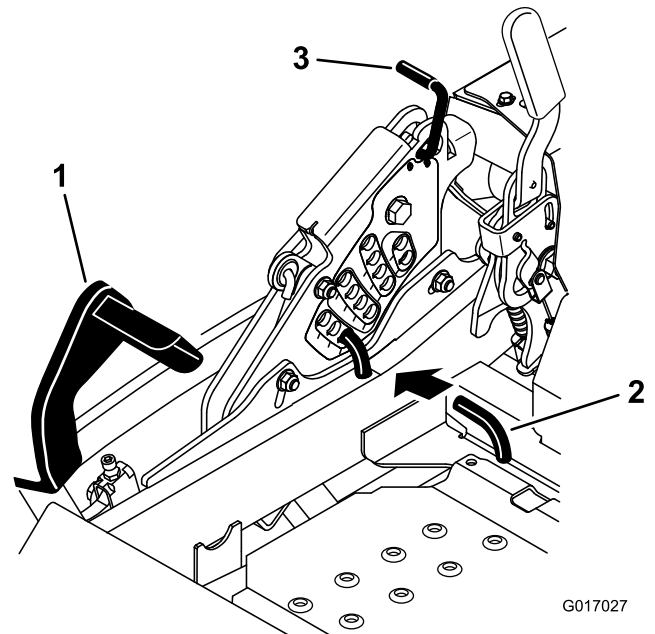

Figure 92
5. Push the deck lift pedal all the way forward and the deck will latch at the 5 1/2 inch (14 cm) transport position (Figure 92).